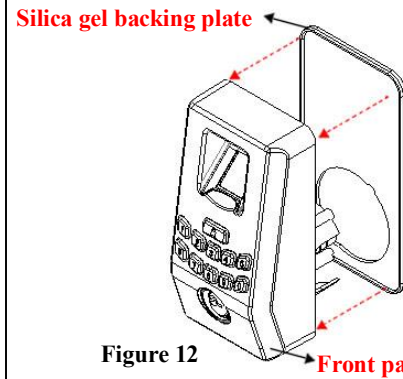

Figure 12
1. Install a **Silica gel backing plate** on the **Front panel Assembly** (moisture proof / waterproof). As shown in **Figure 12**.